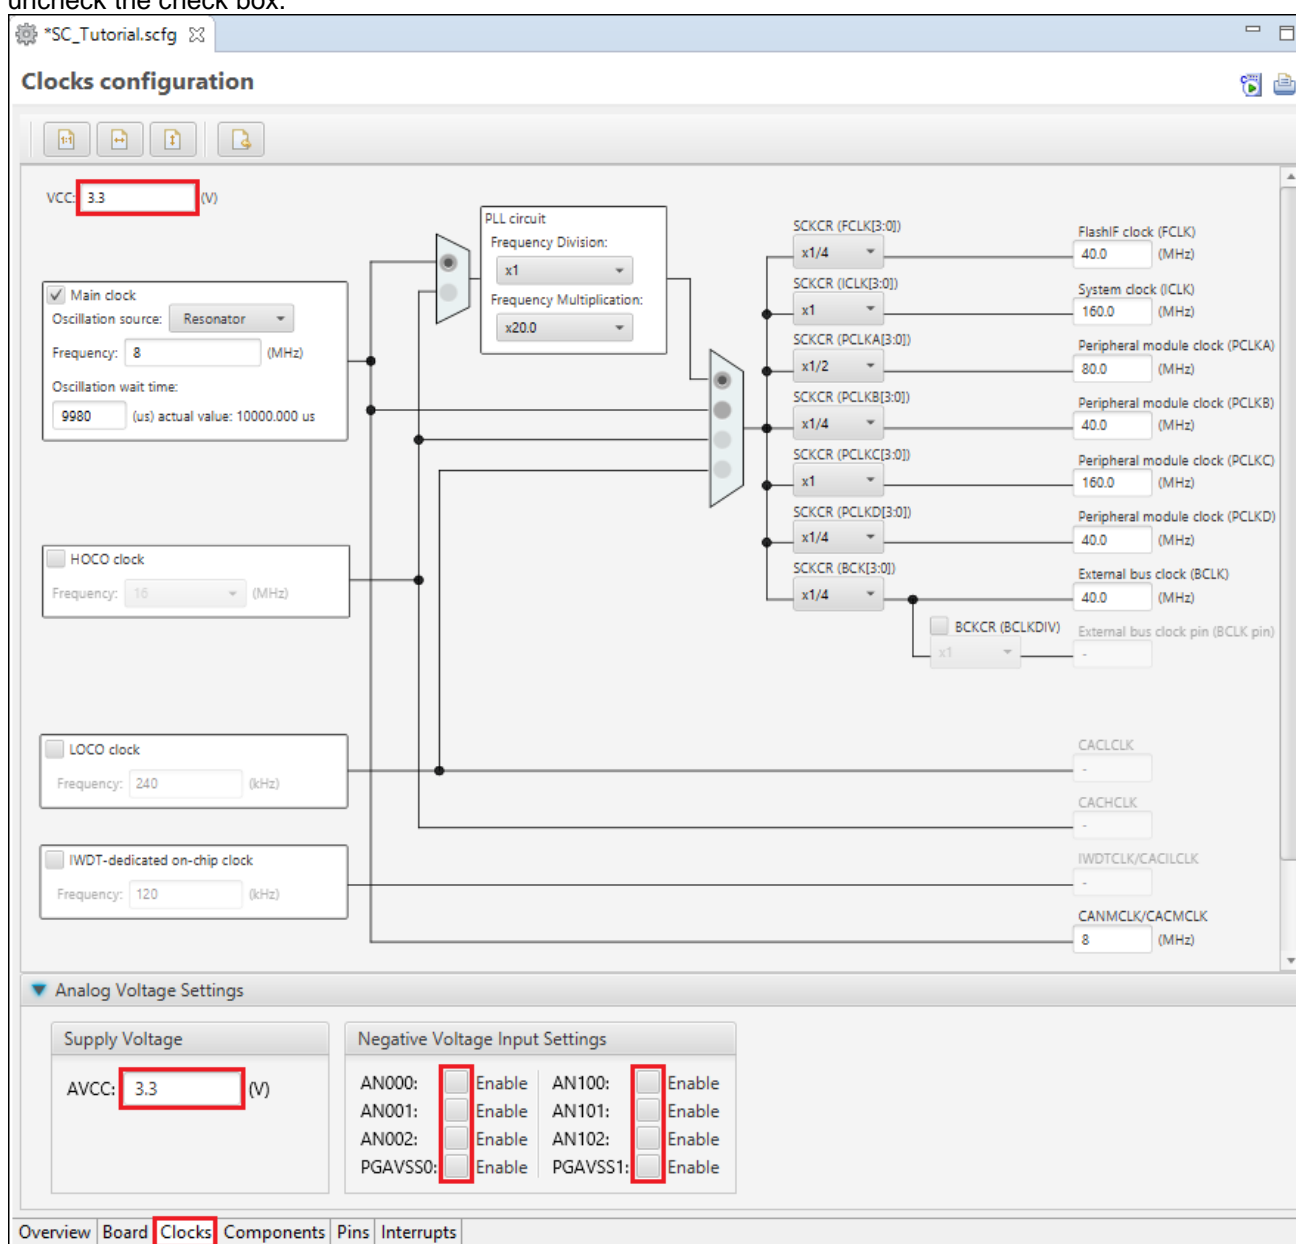

Figure 4-6 Clocks Configuration page
**Figure 4-6** shows a screenshot of Smart Configurator with the Clocks configurations. Click on the 'Clocks' tab. Configure the system clocks as shown in the figure. In this tutorial, we are using the on board 8 MHz crystal resonator for our main clock oscillation source and the PLL circuit is in operation. The PLL output is used as the main system clock and the divisors should be set as shown in **Figure 4-6**.